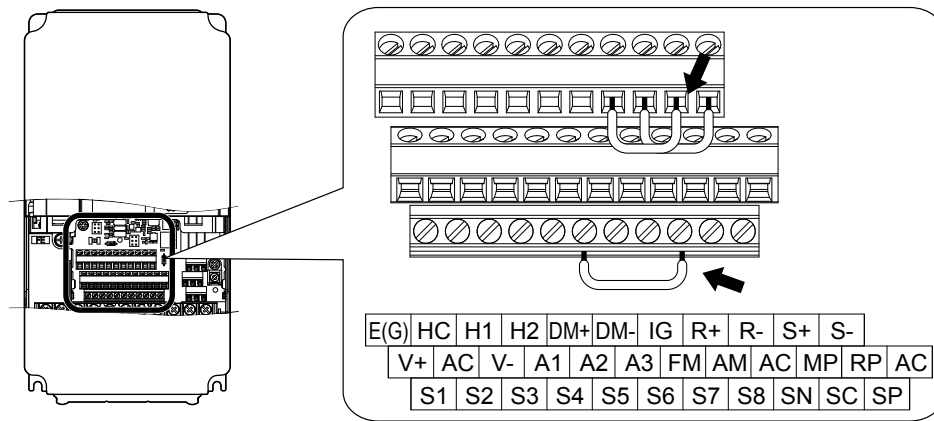

Figure B.9 Terminal Connections for Communication Self-Diagnostics
4. With the power off, wire the drive as shown in **Figure B.9**, connecting terminals R+ and S+, R- and S-, and S6 and SN.